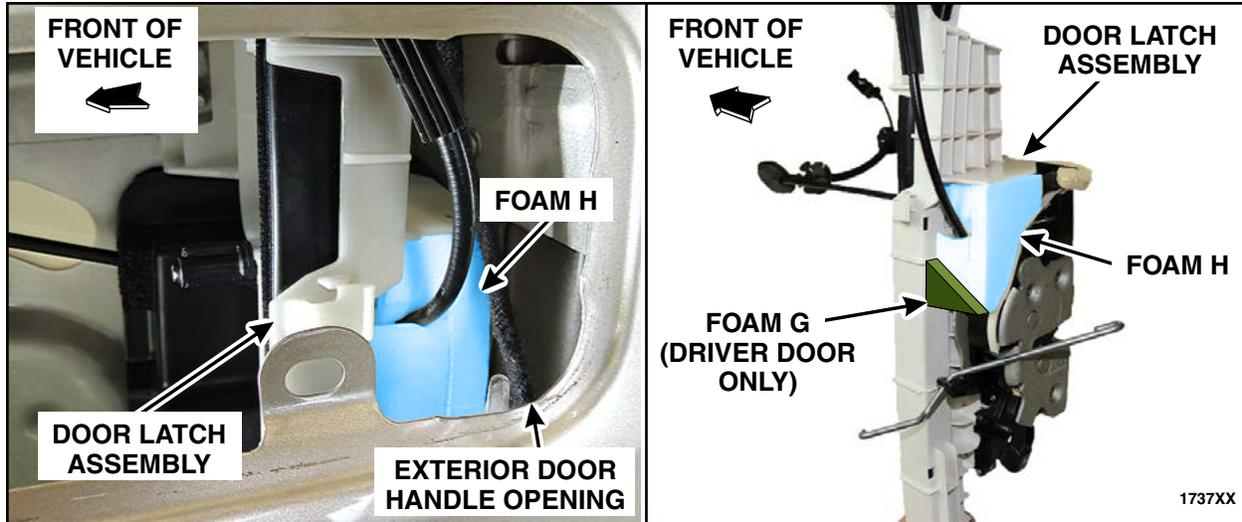

FIGURE 34
2. Install Foam H onto the driver door latch. See Figure 34.